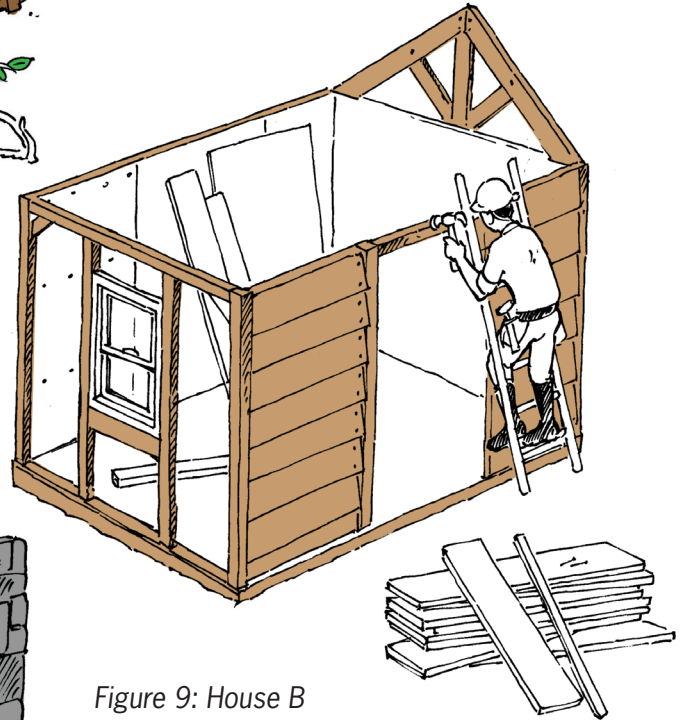

Figure 9: House B
- What material is being used to build the house in Figure 9?
- What tools are being used by the people building the house in Figure 9?